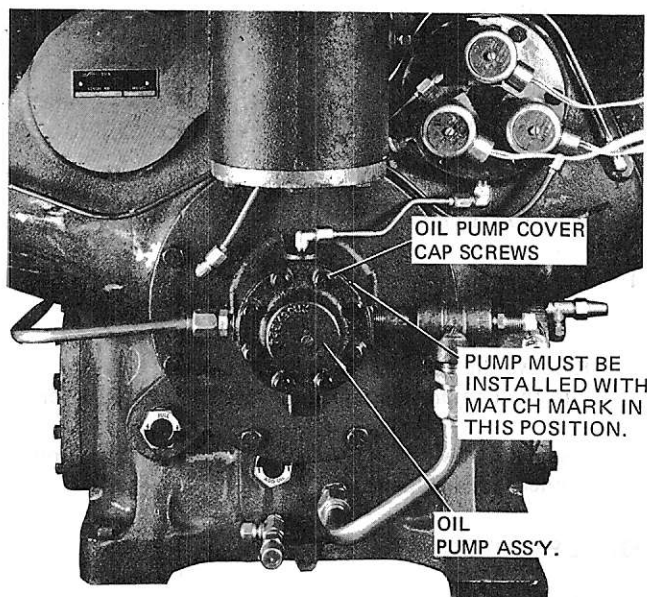

FIG. 10 — OIL PUMP END OF COMPRESSOR — EARLY STYLE A COMPRESSOR
COMPRESSOR OIL PUMP (See Fig. 10 & 11)
3. Install the new oil pump assembly using a new gasket. Be sure that the flat end of the pump drive shaft engages the slot in the end of the compressor crankshaft and that the match mark on the oil pump cover is at the 1:30 position. (See Fig. 10.)